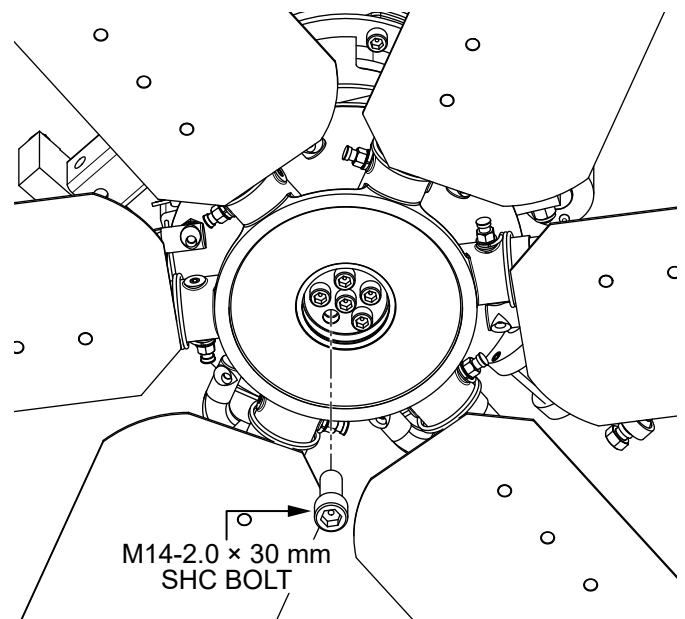

Figure 58. Install Five New Bolts
9. Install the five new **M14-2.0 × 30 mm SHC bolts** as shown in Figure 58. Torque the bolts in a star pattern to 60 lbf·ft (81.3 N·m).